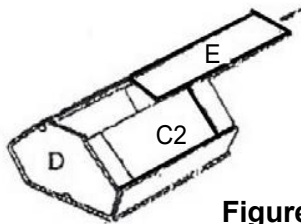

Figure 6
5. Installing the Back Panel (Figure 6): Slide the back panel (E) into grooves of rear side panels (C1 & C2) Make sure the finished side of panel is towards the inside of the cabinet. Once the back panel is assigned and fitted tight, secure it with 1" Back Panel Screws (c) into the pre-drilled holes on the back panel (Figure 7).